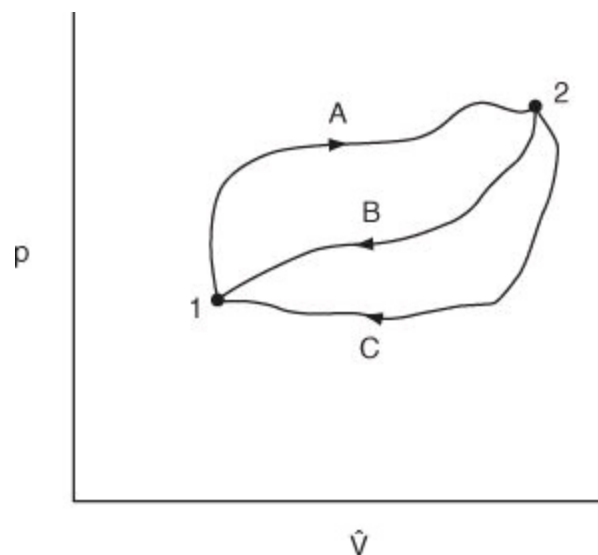

Figure P9.3.11
- **9.3.11.** Two states, 1 and 2, are marked in Figure P9.3.11. Path A is taken from 1 to 2. Two alternative return paths from 2 to 1 are shown: B and C. Two different cycles can now be made up, each going from point 1 to point 2, and then returning to point 1. One cycle is made up from path A and path B, and the other from path A and path C. Are the following equations correct for the cycle 1 to 2 and return?